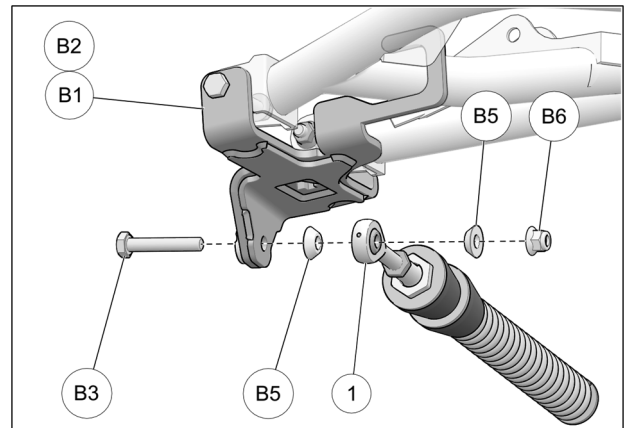

Fig. 10
- Attach stabilizing rod (1) to anchor bracket (B1-B2), using bolt (B3), taper spacer bushings (B5), and nut (B6). Torque to 70 N•m [52 lb•ft]. See Fig. 10